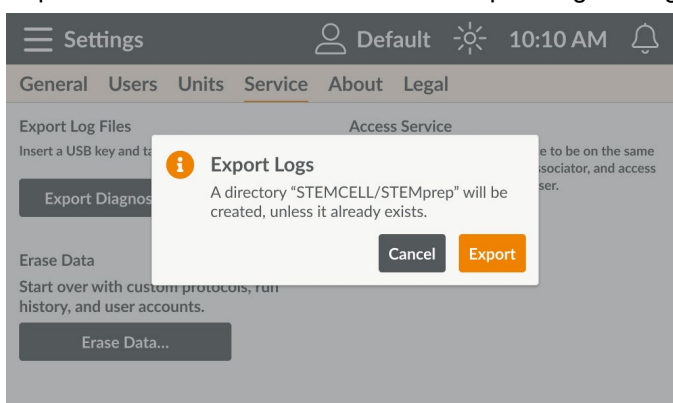

Figure 85. Export Logs Dialog
4. Tap . An Export Logs dialog will be displayed (Figure 85).